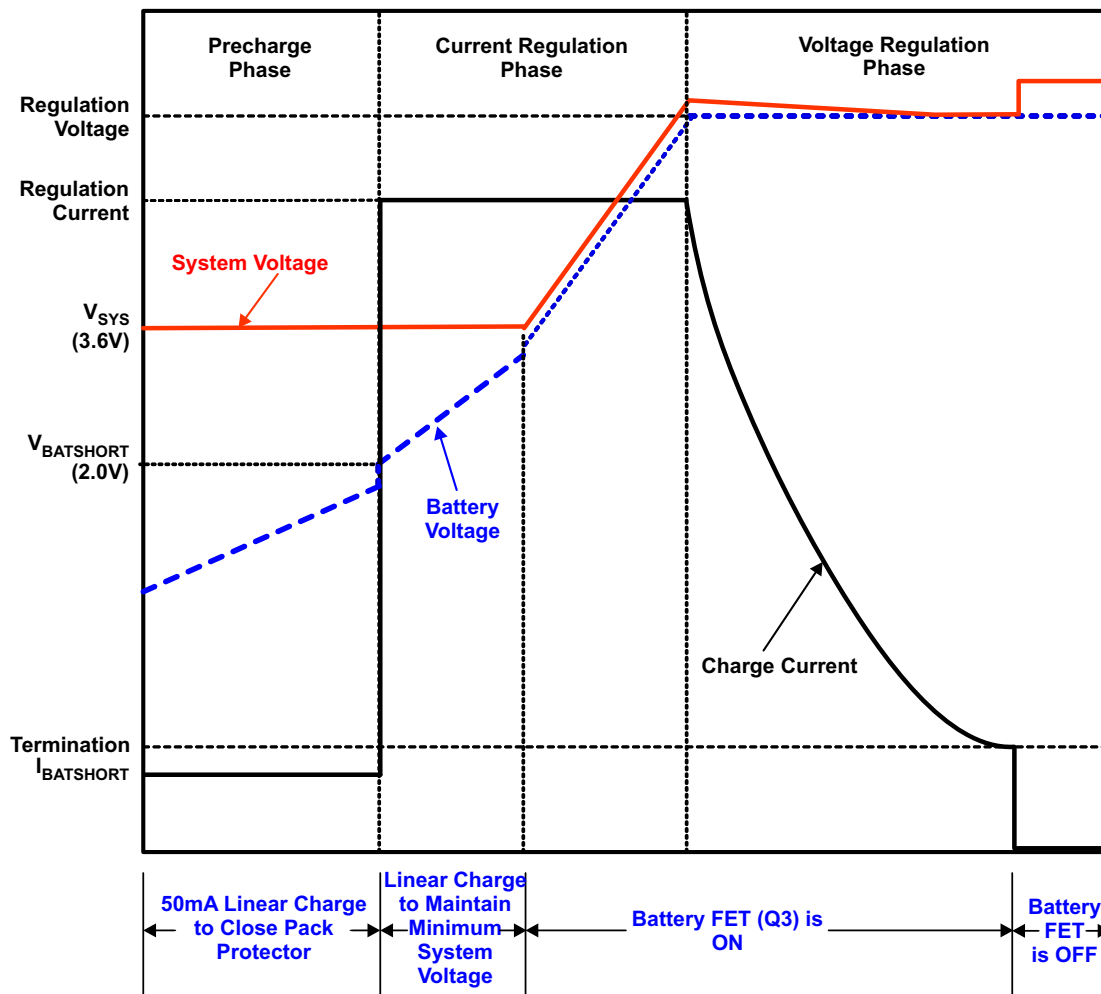

Figure 10. Typical Charging Profile of bq24188 with Termination Enabled
The bq24188 supports a precision Li-Ion or Li-Polymer charging system for single-cell applications. Charging is done through the internal battery MOSFET. There are 6 loops that influence the charge current; constant current loop (CC), constant voltage loop (CV), thermal regulation loop, minimum system voltage loop (MINSYS), input current limit and V_{IN} -DPM. During the charging process, all six loops are enabled and the one that is dominant takes control. The minimum system output feature regulates the system voltage to $V_{SYSREG(LO)}$, so that startup is enabled even for a missing or deeply discharged battery. Figure 10 shows a typical charge profile including the minimum system output voltage feature.
Once the battery is charged enough that the system voltage rises above $V_{SYSREG(LO)}$ (approximately 3.5V), the battery FET is turned on fully and the battery is charged with the full programmed charge current set by the I²C interface, I_{CHARGE} . The charge current is regulated to I_{CHARGE} until the voltage between BAT and PGND reaches the regulation voltage. The voltage between BAT and PGND is regulated to V_{BATREG} (CV mode) while the charge current naturally tapers down as shown in Figure 10. During CV mode, the SYS output remains connected to the battery. The impedance of the battery FET is increased to 4x of the fully on value when IBAT falls below ~350mA to provide increased accuracy during termination. This will show a small rise in the SYS voltage when the $R_{DS(on)}$ increases below ~350mA.